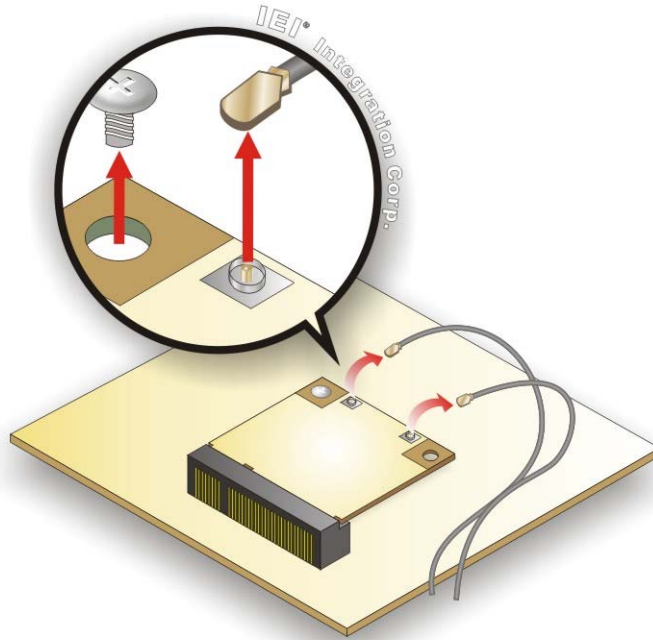

Figure 5-2: Releasing the WLAN Card
Step 5: Disconnect the antenna cables on the WLAN module and remove the retention screw to release the WLAN card (**Figure 5-2**).